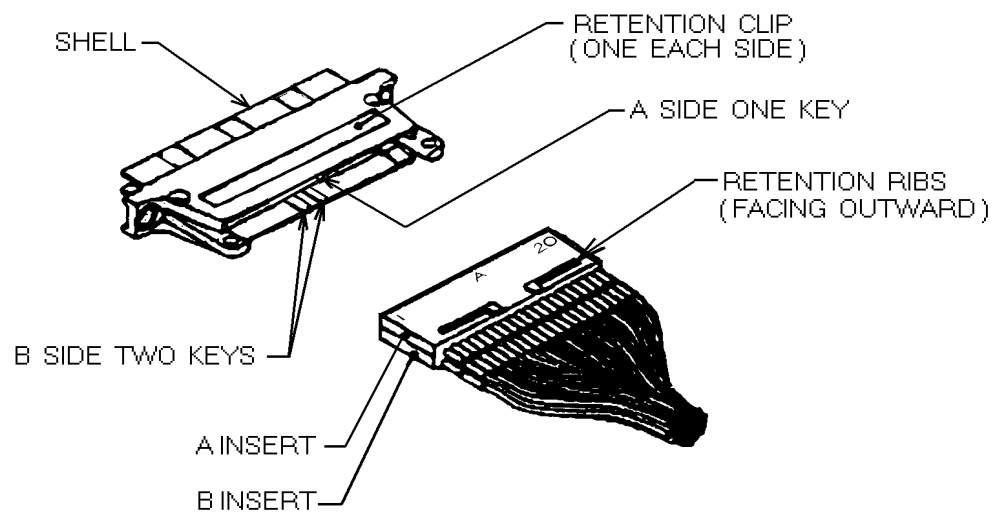

Figure 5-9. Terminated Insert Pair Ready for Installation into Shell.
2. Orient the A insert toward the A side of the shell and the B insert toward the B side of the shell (Figure 5-9).